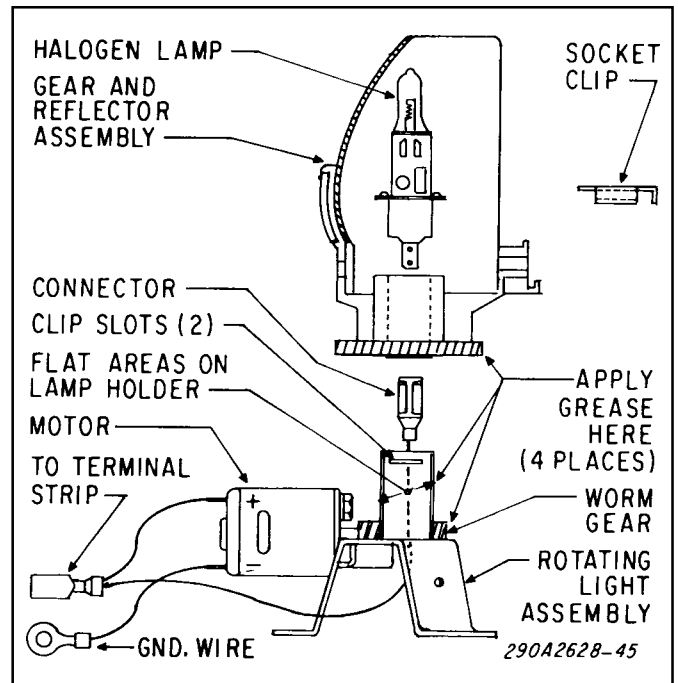

Figure 4.
Rotating lights should be lubricated at least twice a year. Use medium consistency Dow Corning DC33 or equivalent type grease. Proceed as follows (see figure 4):
2. Lift-off reflector and worm gear. Lubricate with grease as shown in figure 4.